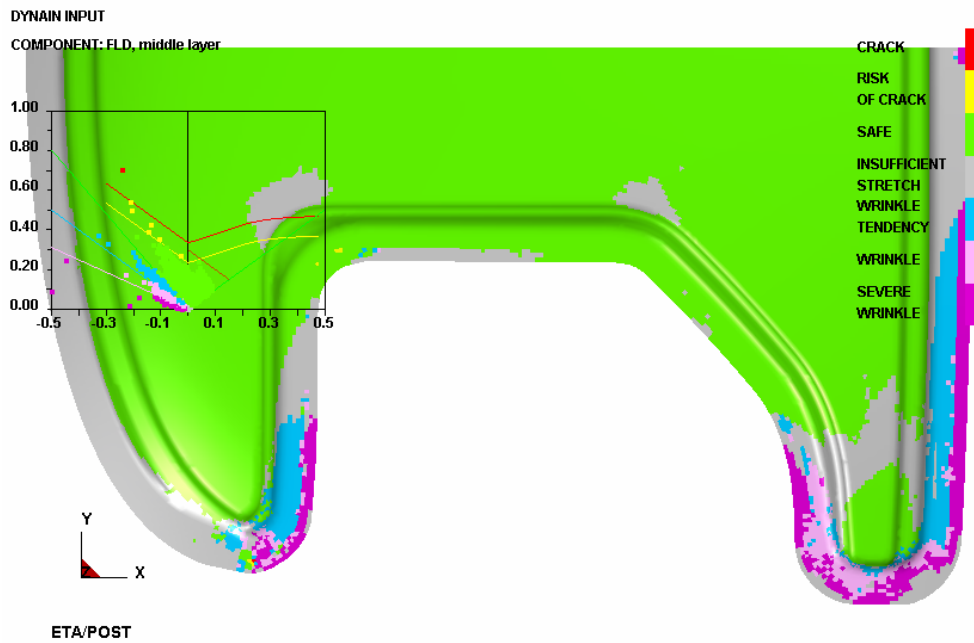

Figure 3.60: Illustration of FLD result
7. Start up ETA/Post-Processor, open the dynain.mstep to observe the detail information about the result. See figure 3.60.